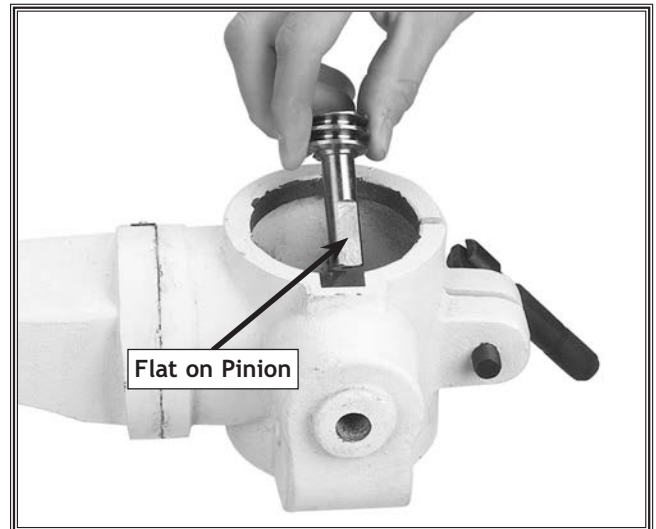

Figure 11. Pinion installation positioning.
8. If the pinion is not already installed, insert it shaft-end into the hole on the side of the table support bracket, as shown in **Figure 11**.